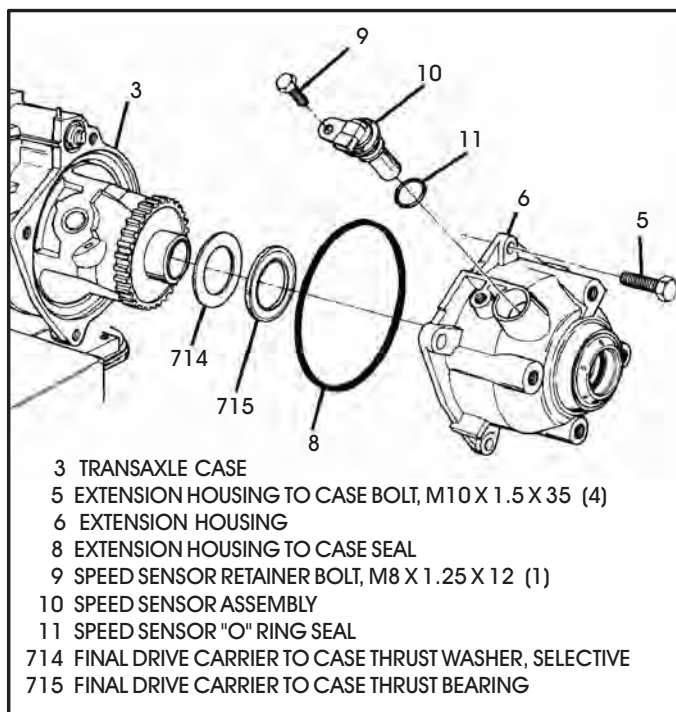

Figure 185
39. Rotate the transaxle in fixture so that bottom pan surface is facing down (See Figure 185).
40. Remove the two temporary extension housing bolts and the extension housing, as shown in Figure 185.
43. Ensure that the selective thrust washer and the thrust bearing are still in place, as shown in Figure 185.
44. Now install the extension housing "O" ring and reinstall the extension housing, as shown in Figure 185.